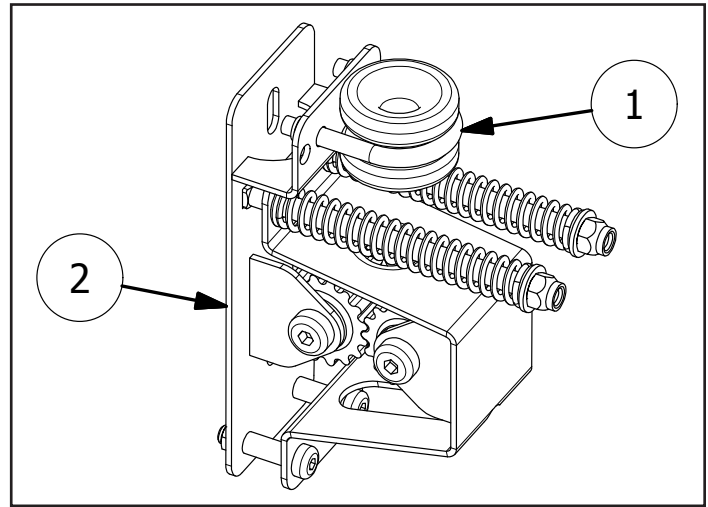

FIG. 28
FIG. 28: Make sure the twine guides (1) in the twine tensioners (2) are located on the right-hand set of holes for needles one and two and on the left-hand set of holes for needles three and four.